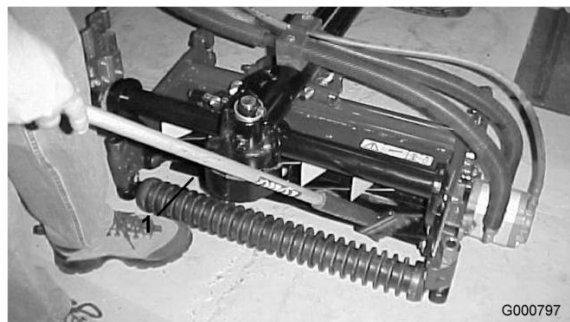

Figure 83
8. Apply lapping compound with a long handle brush (Toro Part No. 29-9100). Never use a short handled brush (Figure 83).